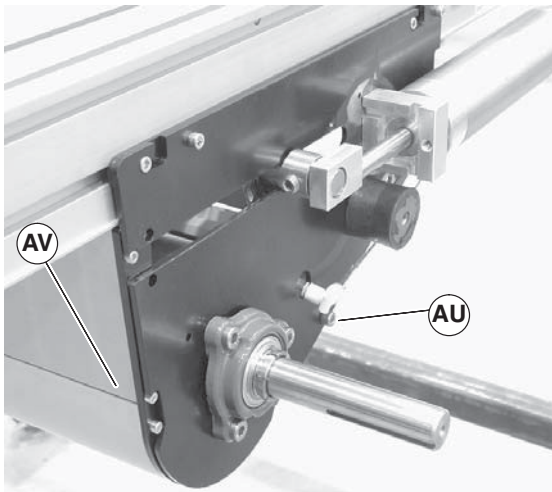
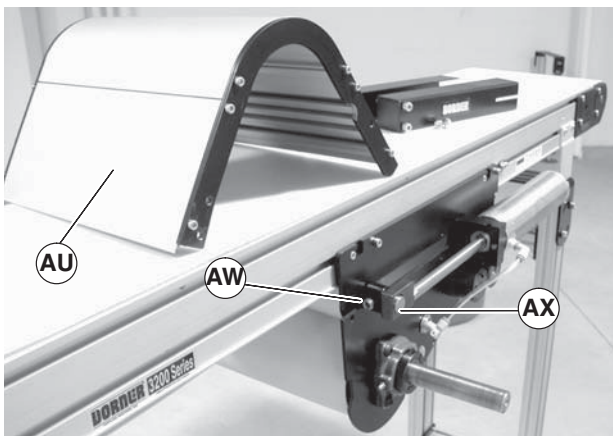
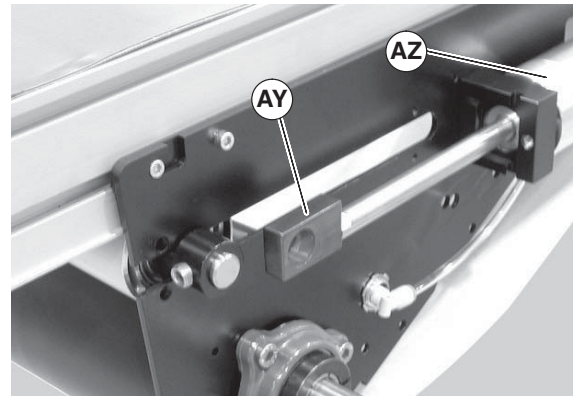

Figure 62
Figure 63
Figure 64
3. Temporarily support the tensioning roller guard (Figure 62, item AV). Remove screws (AU) on both sides of center drive and remove tensioning roller guard (Figure 62, item AV) and (Figure 63, item AV).
4. Loosen tensioning roller set screws (Figure 63, item AW) on one side of center drive.
5. Push shaft (Figure 62, item AX) through block, slide block (Figure 64, item AY) towards air cylinder (AZ).